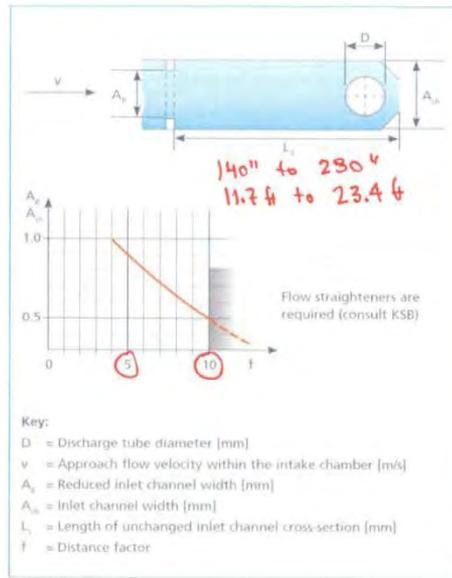

Fig. 27: Influence of cross-sectional constriction
If these mounting devices constrict the free flow cross-section, the distance between the pump and this point of flow disturbance must be checked and increased where necessary (Fig. 27).
- f = Distance factor (see Fig. 27)